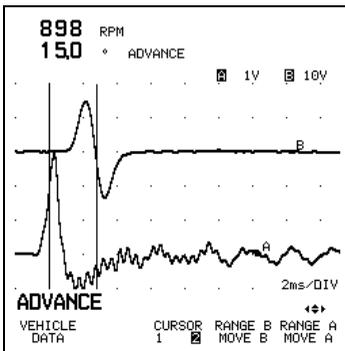

Figure 5-63. Advance at Idle.
⑥ Position the cursors as shown in Figure 5-63.